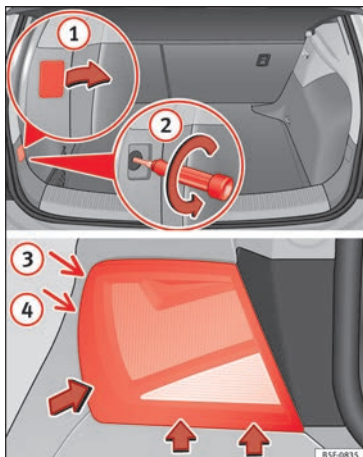

Fig. 112 Luggage compartment: location of the bolt securing the tail light unit. Remove the rear light unit from side panel.
- Remove the cover by prying the flat side of a screwdriver into the recess and remove the cover from the opening » **Fig. 112 ①**.
- Carefully loosen the screw located behind the cover with a screwdriver, turning it anti-clockwise (arrows) » **Fig. 112 ②**.
- Tilt the light in the direction of the arrows until it comes out of its housing (positions ③ and ④) » **Fig. 112**.